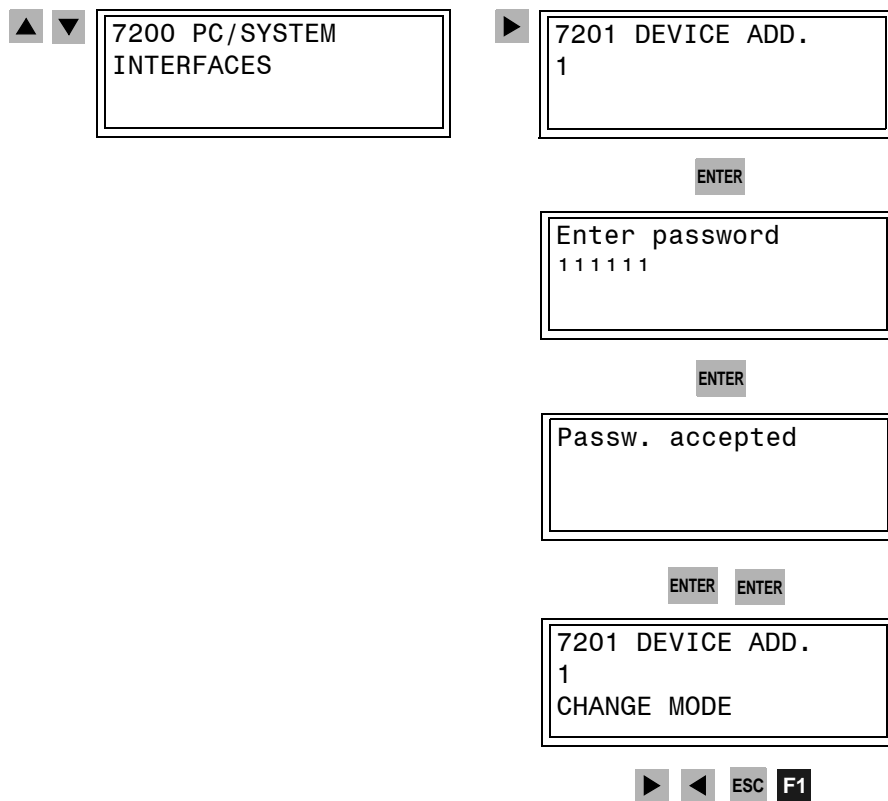

Figure 3-5 Operator menu for setting the device address in the bay units
- ❑ Use the navigation keys ▲ or ▼ to navigate to the menu item **7200 PC/SYSTEM INTERFACES**, and the navigation key ► to go on to the submenu for the parameter **7201 DEVICE ADD.** (see Figure 3-5, page 63).